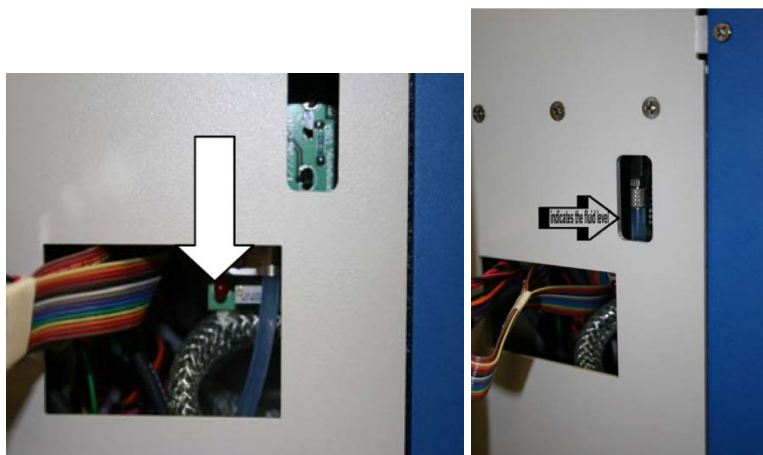

Figure 6: LED Light and Bath Fluid Level
2. If the LED light is off as shown in Figure 6, more bath fluid needs to be added. Follow the instructions the *miniAV-LT Instruction & Operation* manual for filling the bath.